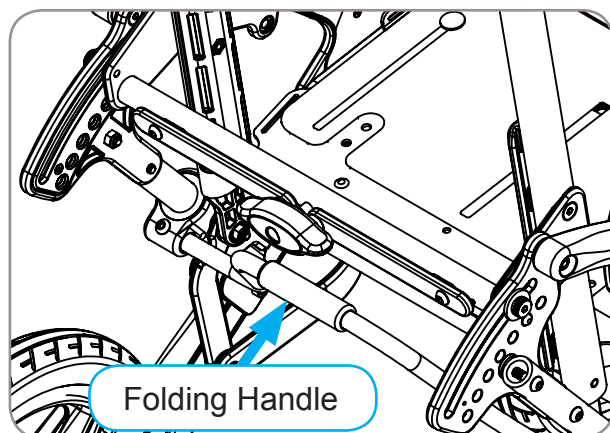

Figure 11
4. Place one hand on handlebar, with other hand pull folding handle upward. Reference Figure 11.